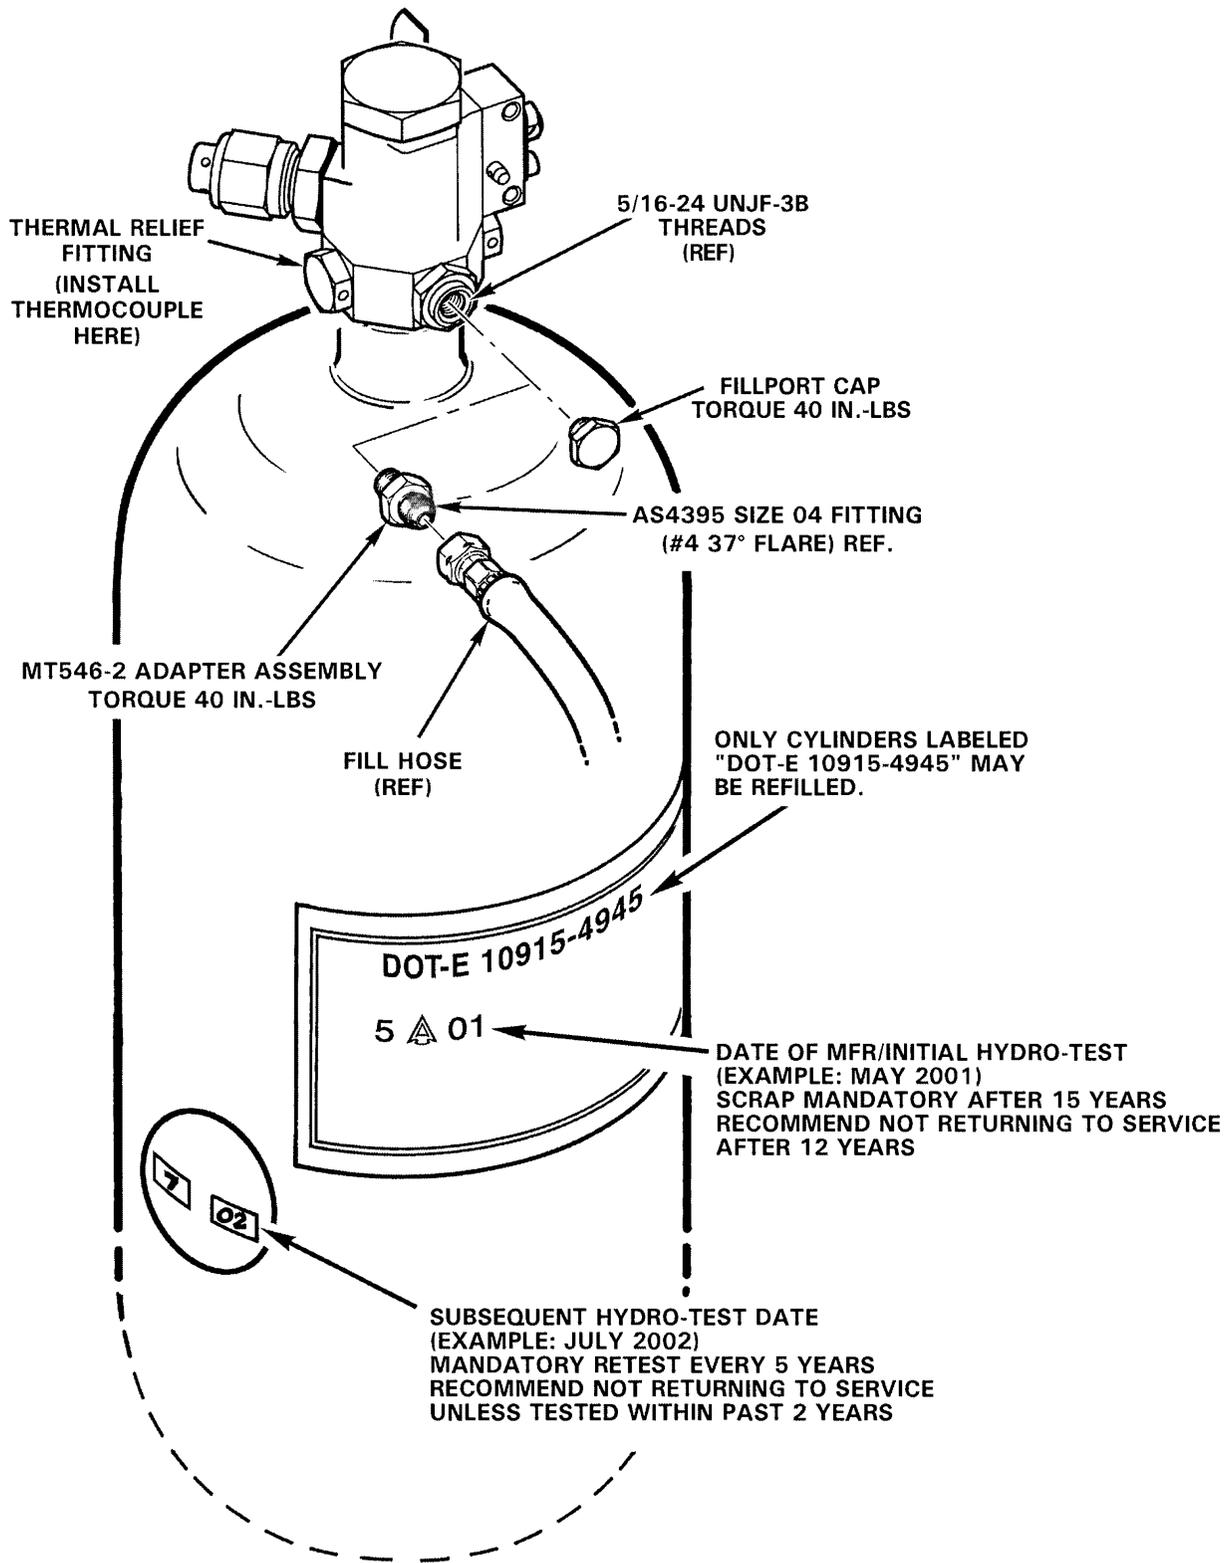

FIGURE 5-6 FILLING PRESSURE CYLINDER
Cylinder contents are under extreme pressure. Install locking pin in pressure cylinder valve (see Figure 5-6) when working in forward left baggage compartment, during cylinder removal or installation, and when working on pop-out floats or inflation hoses. **Remove locking pin when work is completed.**
5.665 Filling Pressure Cylinder (See Figure 5-6)
**VIEW A-A FROM FIGURE 5-6
Cylinder contents are under extreme pressure. Install locking pin in pressure cylinder valve (see Figure 5-6) when working in forward left baggage compartment, during cylinder removal or installation, and when working on pop-out floats or inflation hoses. Remove locking pin when work is completed.